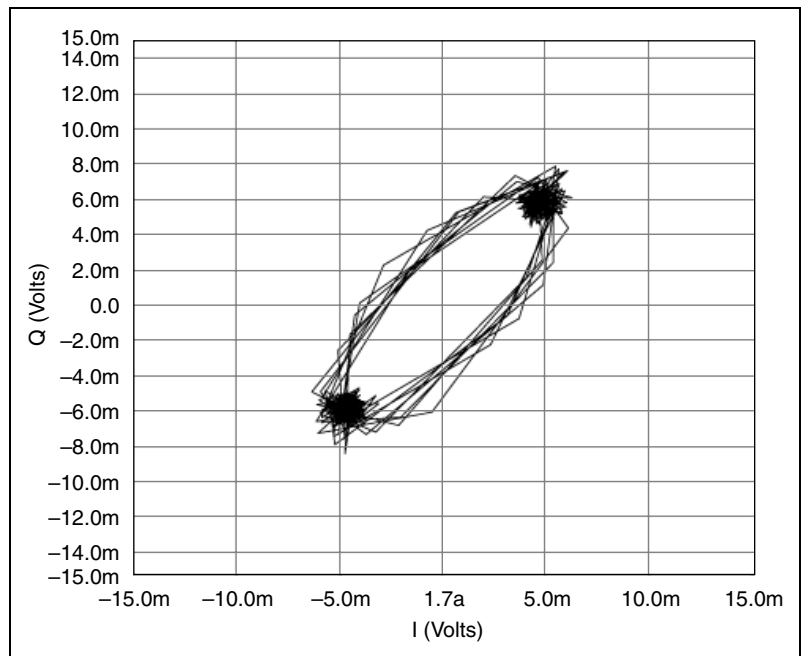

Figure 4. I/Q Plot
You can use the SMT Cont Zoom FFT VI to perform the continuous zoom FFT technique. This VI is located on the **Zoom FFT** palette, which is a subpalette of the **SMT Advanced** palette. This VI also passes the complex modulated and filtered time-domain data corresponding to the spectrum. Figure 4 shows the in-phase (I) and quadrature-phase (Q) components of this complex time-domain data plotted on an I versus Q plot. The input signal is a phase-modulation (PM) wave. The PM signal is modulated with a square wave, with a carrier at 70 MHz. The RF signal analyzer is tuned to the carrier frequency.